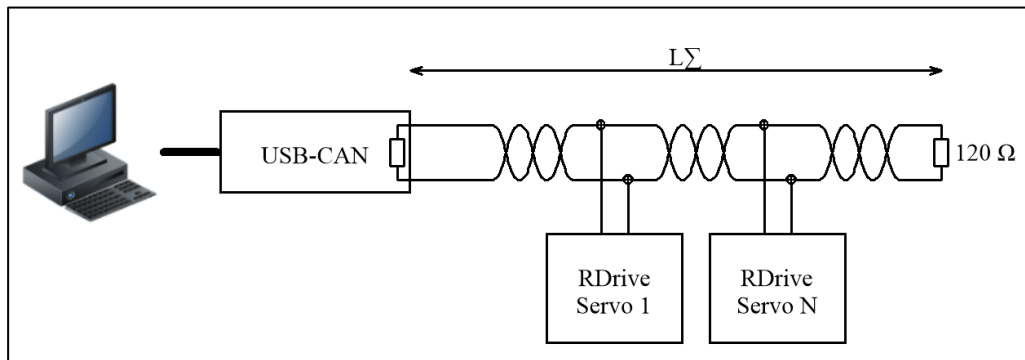
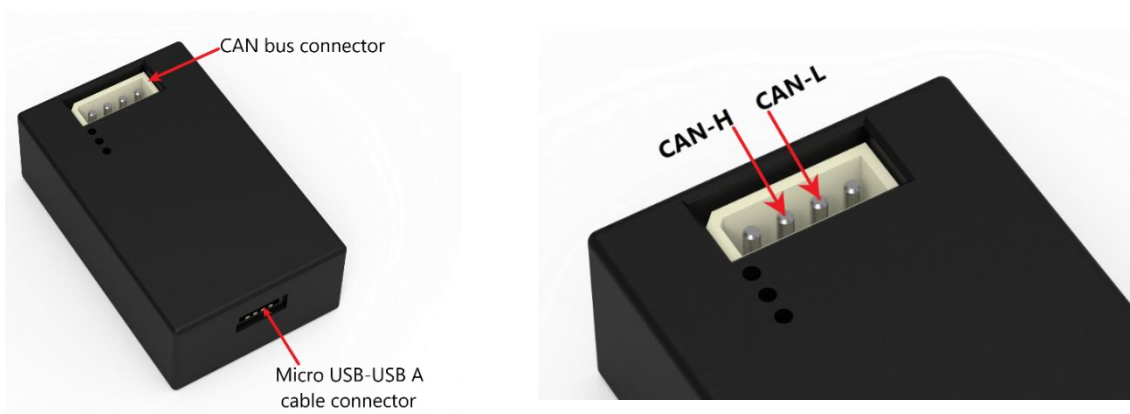

Figure 4-2: CAN-to-PC connection to control servos via API
Figure 4-3: Connectors on the USB-CAN dongle
- In case servo control is via API, provide a CAN-to-PC connection as shown in **Figure 4-2**.
The connection is in accordance with the diagram as shown in **Figure 4-2**, taking into consideration the arrangement of connectors on the USB-CAN dongle (see **Figure 4-3**). To provide the connection, use the cable on the input flange of the servo motor: the brown one corresponds to CANHIGH, and the blue one — to CANLOW.